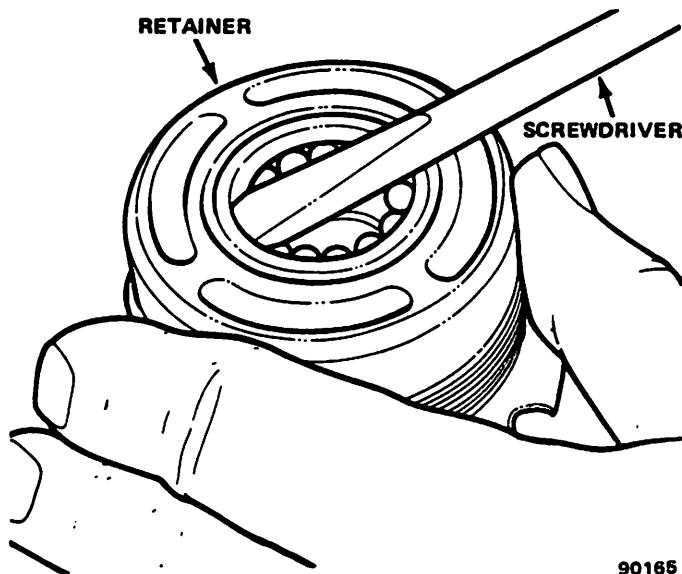

Fig. 2K-8 Removing Wormshaft Lower Bearing Retainer
(1) Remove wormshaft lower bearing retainer from worm bearing adjuster. Use screwdriver to pry retainer out of adjuster (fig. 2K-8).